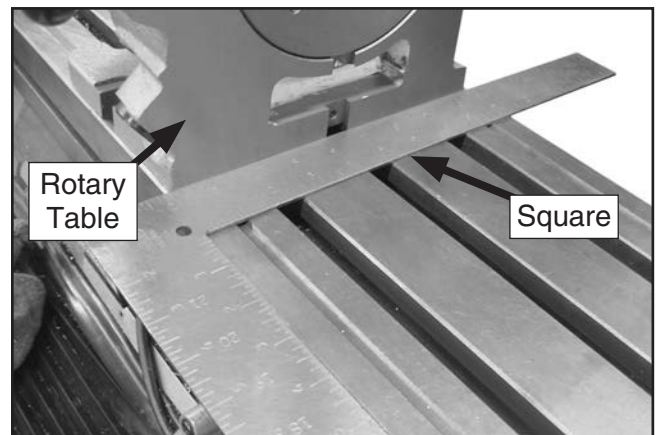

Figure 19. Using a precision square to align with X-axis.
2. Position a precision square across front edge of mill table and adjust rotary table flat against square, as shown in **Figure 19**, then clamp rotary table in place.